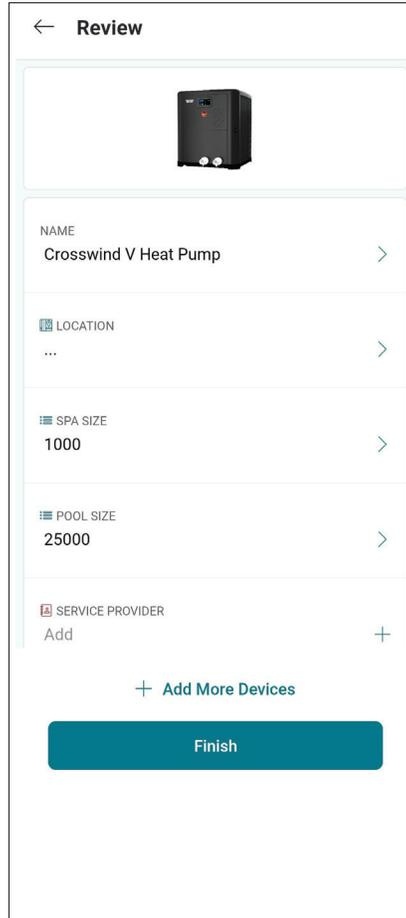

Figure 80. Device Setup Review
3. During device configuration, basic reference information about the heater will be requested, including service provider, site location, Pool and Spa size. See Figure 80.